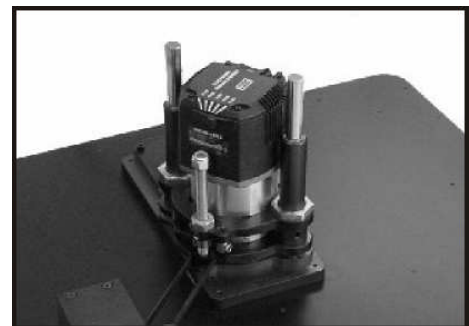

Figure 4
3. Slide the router motor into the carriage assembly and position it so the router slides all the way down into the center hole and the top of the router motor touches the bottom of the center hole retainer ring (Fig. 4)